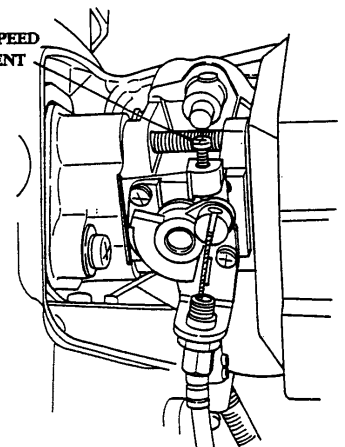

FIG. 18
7. (FIG. 18) Carburetor Idle Adjustment - The carburetor has been pre-adjusted at the factory and normally will not require further adjustment. If the engine does not run smoothly at idle speed, first clean the air cleaner element, fuel filter and check fuel lines. If they are okay, adjust the carburetor as follows.
- Turn the idle speed adjustment screw (1) clockwise or counterclockwise (clockwise increases engine speed, counterclockwise decreases engine speed) to achieve the correct idling speed. NOTE: If the engine speed is too high, the tines will rotate. If the engine speed is too low, the engine will stall.